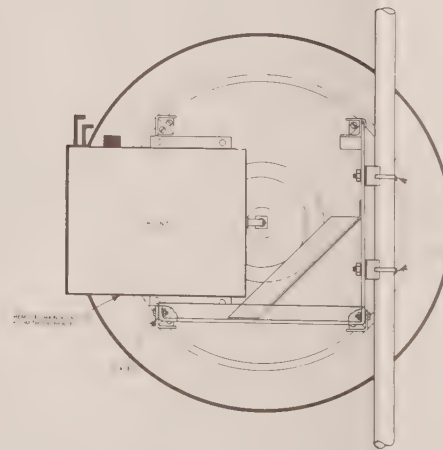

Figure 3-19. Horizontal Polarization - Mount for Elevation Tilt -24° to +15° Range or -30° to +4° Range
2. If greater downtilt than uptilt is required, mount the assembly with the pole to the right of the antenna center; i.e., upside down (reference Figures 3-19 and 3-24).